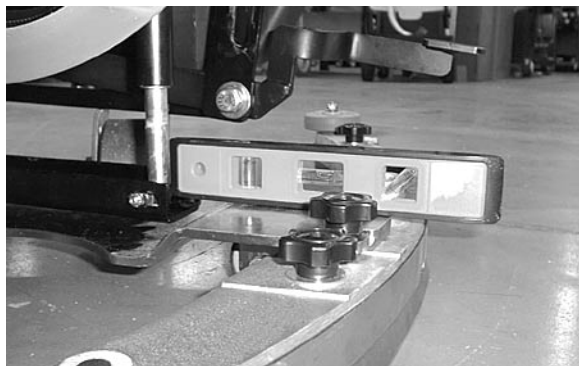

Fig. 26
- b. Place a small bubble level on the squeegee swivel plate as shown (Figure 26).